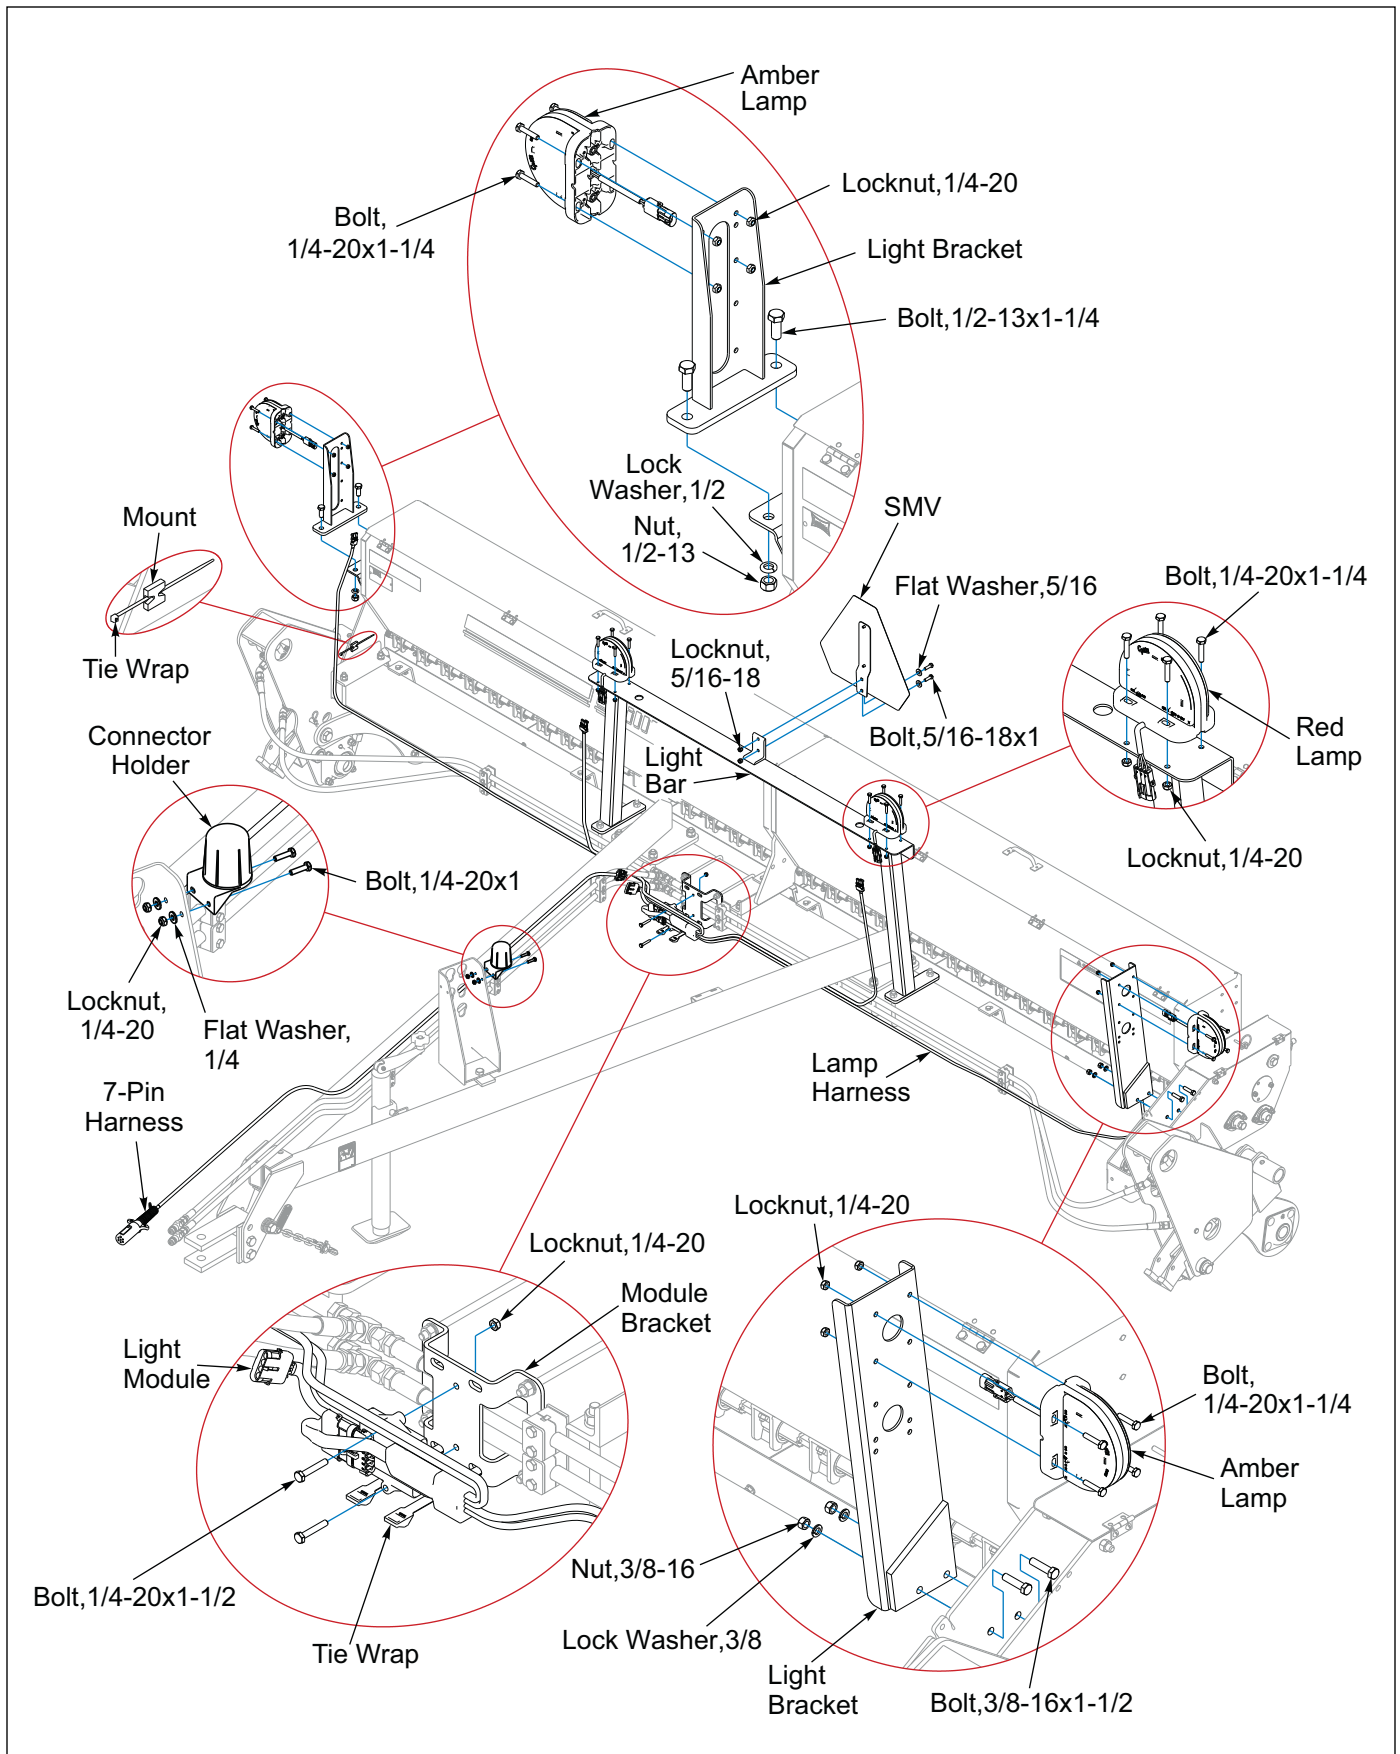

Figure 2-17: Warning Lamp Installation, 12FT Drawbar
1. Attach both Red Lamps to the ends of the Light Bar with 1/4-20 x 1-1/4 Bolts and Locknuts. **See Figure 2-17.**